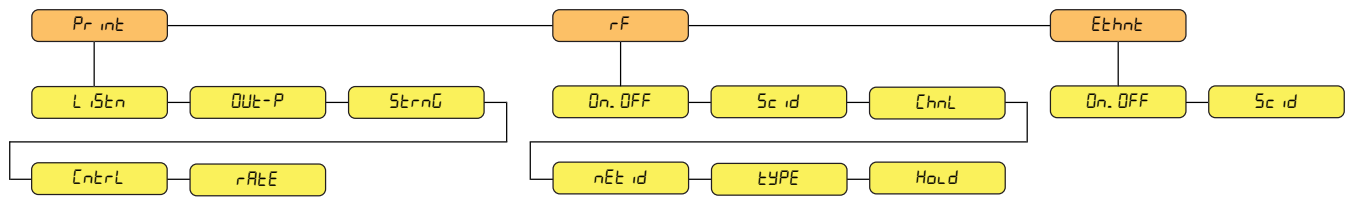

Figure 6-1. Communications Menu
1. Press **TARE** and **USER** at the same time. *Prnt* displays (Figure 6-1 on page 25).